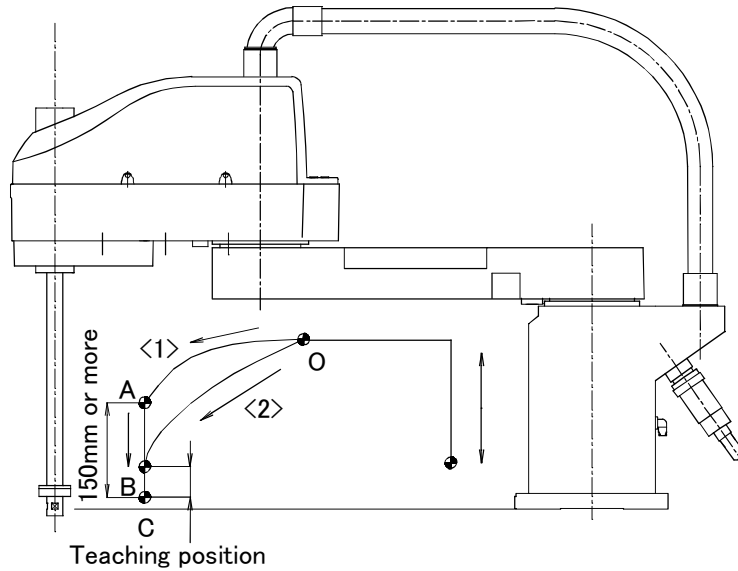

Fig.2-5 : Recommended path when positioning at the bottom edge of the Z axis
- 3) When positioning the work near the bottom edge of the Z axis, if no effectiveness is achieved in step <2> above, perform operation <1> (robot path: O → A → C). In the case of operation 2 (robot path: O → B → C), residual vibration may occur. (Refer to Fig. 2-5.)